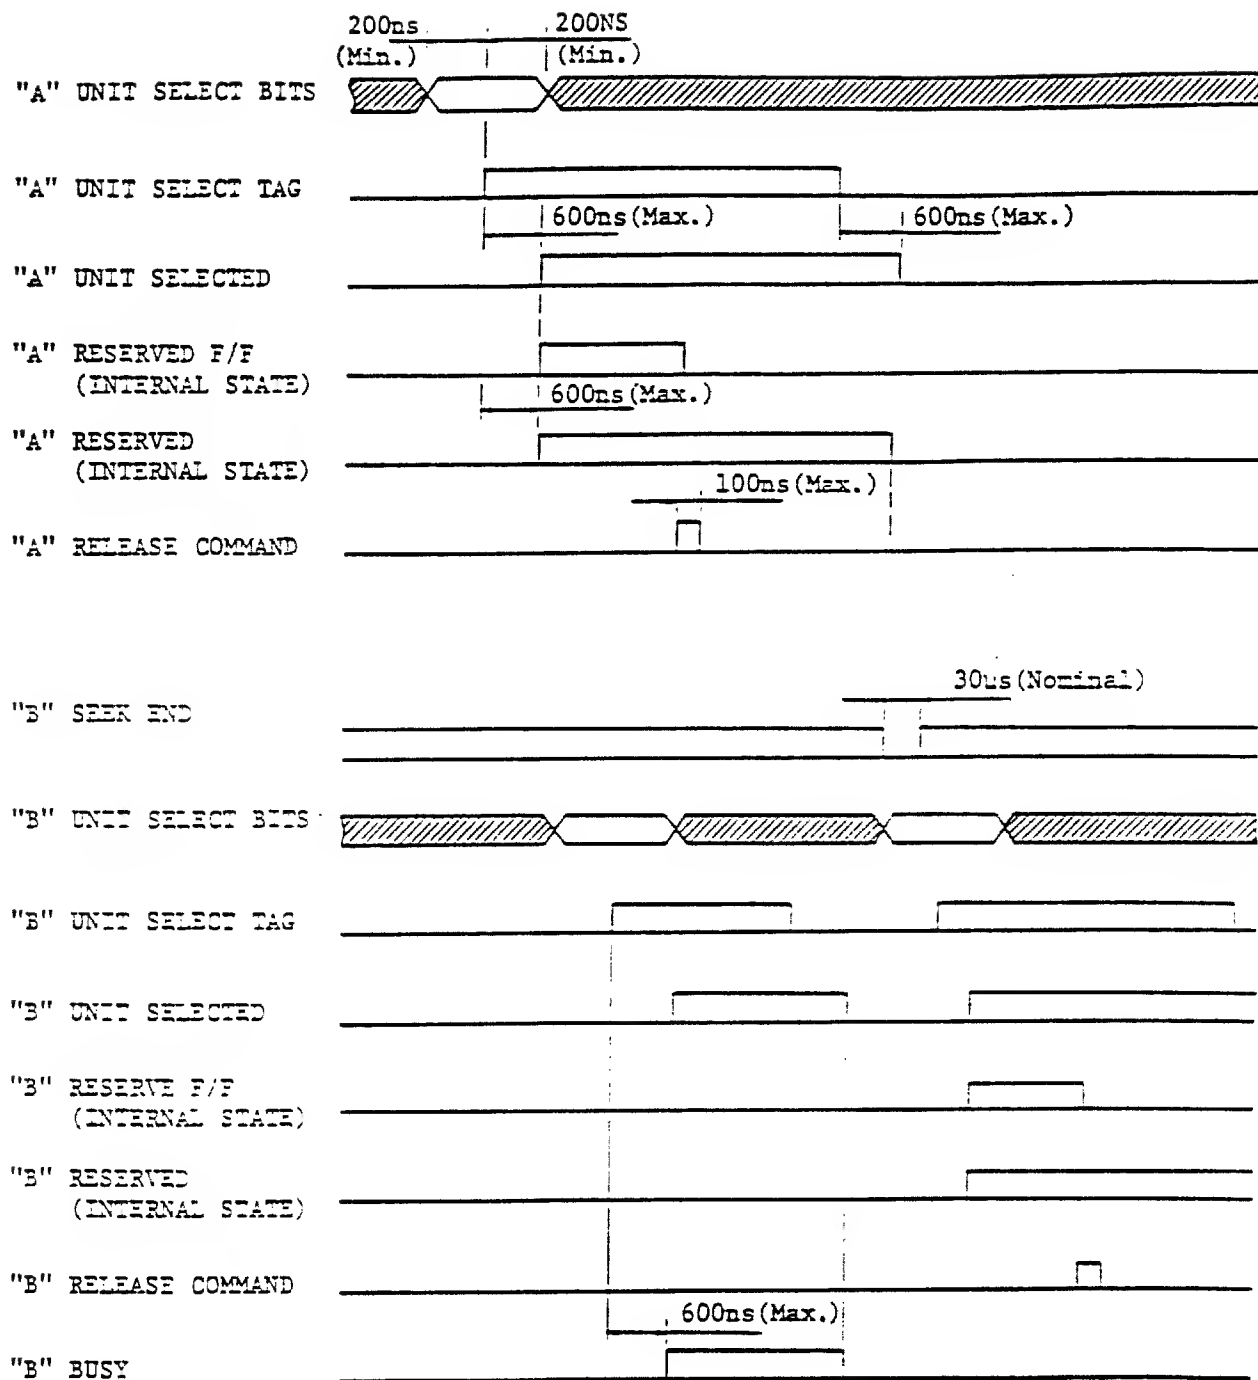

Figure A-2 Unit Select Timing for Dual-Port
a) Drive Selection (See Figure A-2)